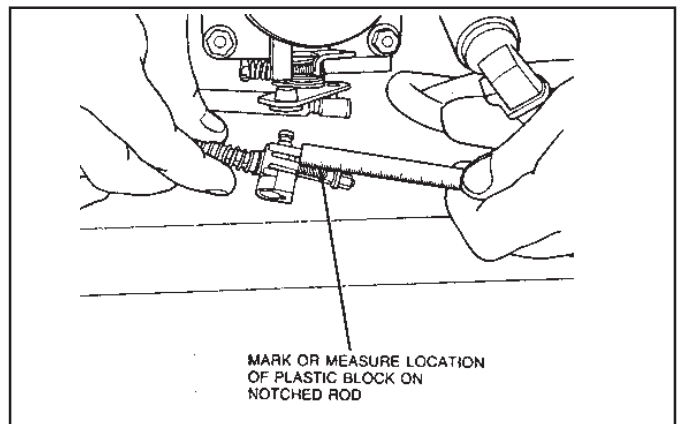

Figure 26
- 7.10 Mark or measure location of plastic block on notched rod. (See Fig. 26.)